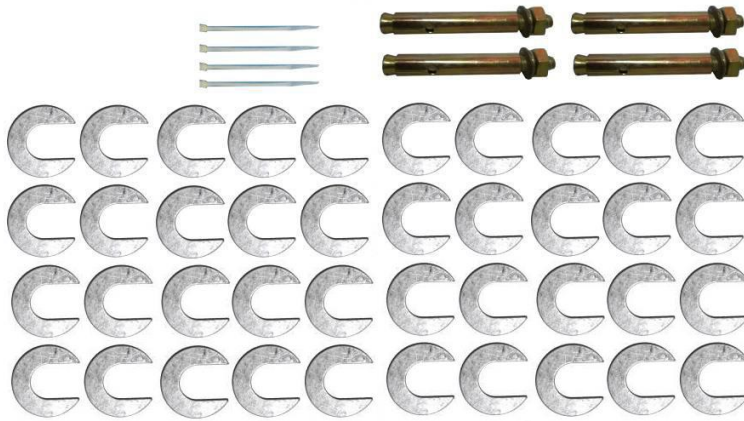

Fig. 7
4. Check the parts of the parts bag according to the parts bag list (See Fig. 7).